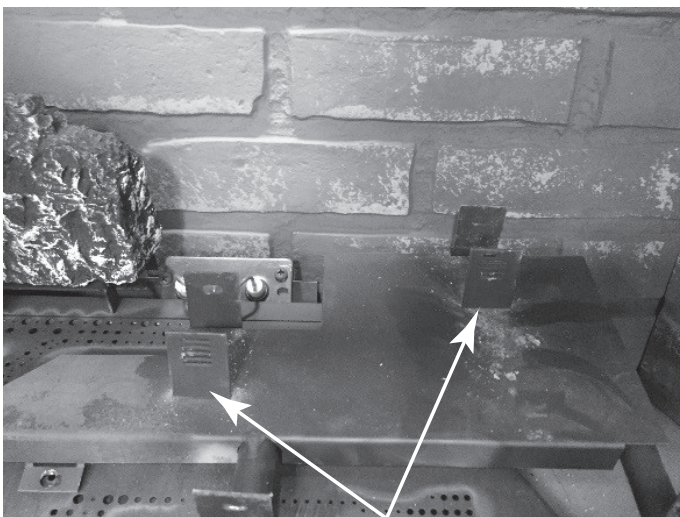

Figure 14.7 Right Rear Log Placement Tabs
- Place lava rock on top of the lava rock tray in front of and under the burner. See Figure 14.7.